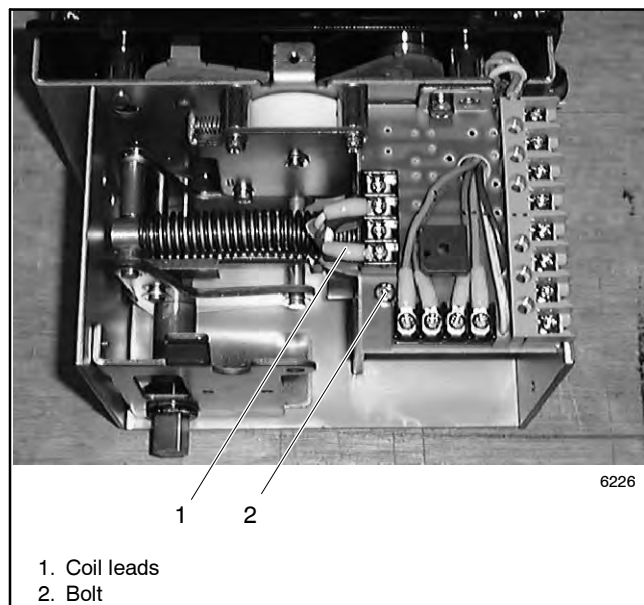
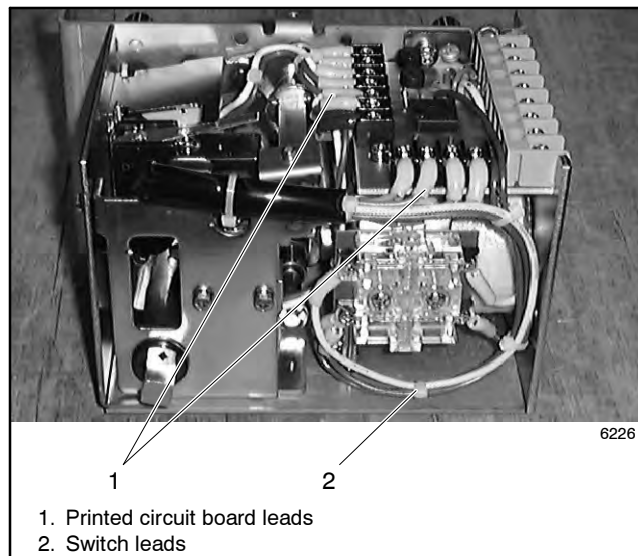

Figure 7-11 Circuit Board Connections
Figure 7-12 Control Switch Wiring
1. Note the connections (for reconnection later) and disconnect the printed circuit board leads. See Figure 7-11 or Figure 7-12.
2. Disconnect the control switch leads at three terminals. See Figure 7-12.
4. Remove the bolt and replace the printed circuit board. See Figure 7-11.